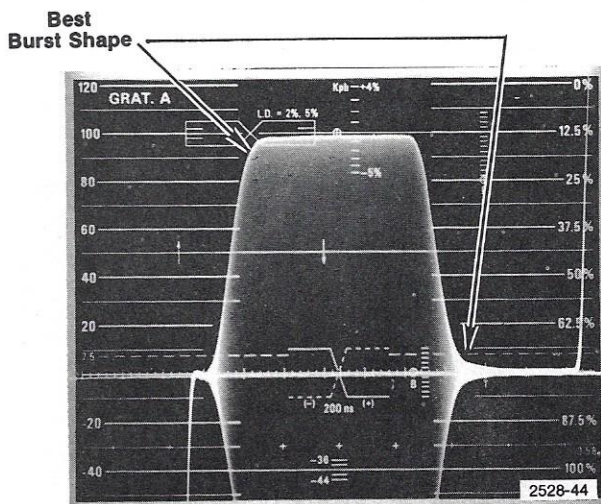

Fig. 4-11. Checking color burst shape. Waveform monitor Volts Full Scale switch set to 0.2.
e. CHECK—for best burst shape while depressing the SPG2 Horiz Unlock button. The shape of the burst envelope should appear similar to the waveform shown in Fig. 4-11.